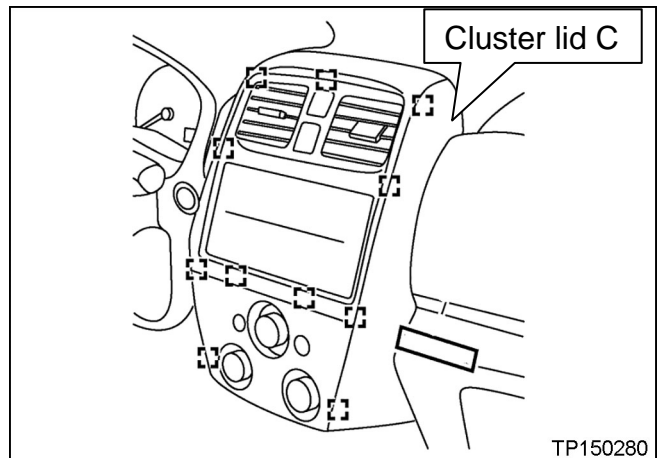

Figure S3
- See Figure S3 for clip locations.